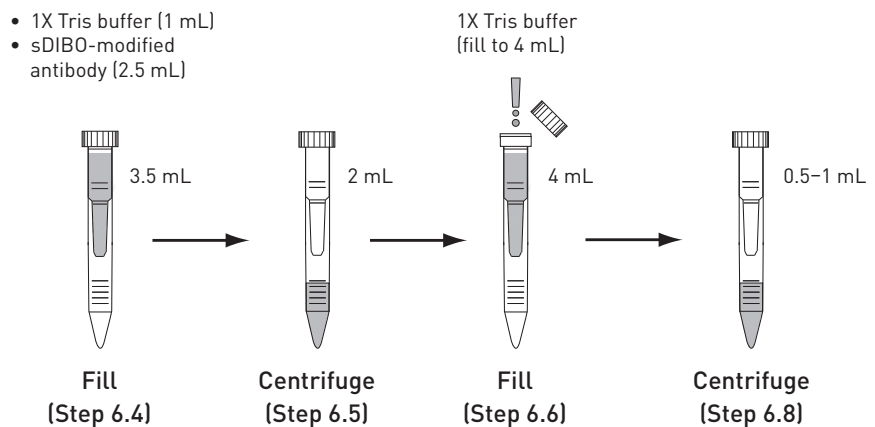

Figure 8 Collect the purified and concentrated antibody conjugate
- 6.4 Add 1.0 mL of 1X Tris, TBS, or PBS and 2.5 mL of the sDIBO-modified antibody (from Step 5.2) to the large antibody concentrator as shown in Figure 8.